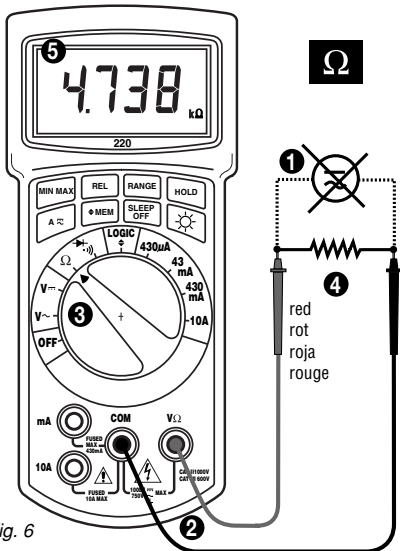

Fig. 6
RESISTANCE MEASUREMENT (See Fig. 6)
❶ Turn off any power to the circuit to be measured and discharge any capacitors. Any voltage present during a resistance measurement will cause inaccurate readings. ❷ Connect test leads as shown in figure 6. ❸ Set Function/Range Switch to Ω position. ❹ Connect test leads to circuit being measured. ❺ Read resistance value on Digital Display. Open circuits will be displayed as "I.O.L".
D • Widerstandsmessung (siehe Fig. 6)
E • Medidas de Resistencia (vea Fig.6)
F • Mesure de Résistance (voir fig. 6)